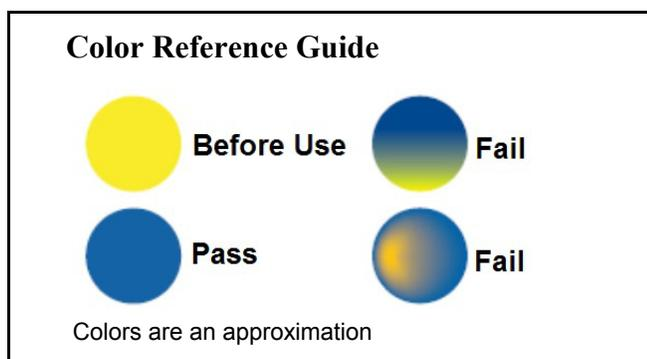

Figure 1. Interpretation Guide for Integrating Indicator Strips
4. Check the integrating indicator strip for passing results (See Figure 1). If passing, open the PCD and remove the SCBI.